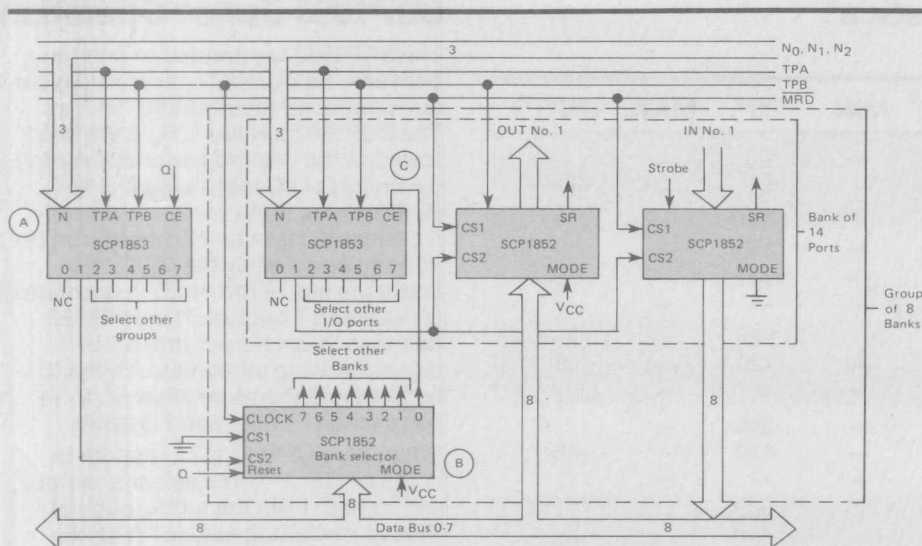

Fig. 4 - Two Level I/O Selection
Two-level I/O allows addressing of hundreds of peripheral devices. Fig. 4 shows a configuration capable of addressing up to 784 peripherals, 392 inputs and 392 outputs. The SCP1853 (A) and SCP1852 (B) together
When the SCP1853 I/O Expander is enabled ($CE = 1$), the selected output will be high from the falling edge of TPA to the falling edge of TPB; the outputs are 0 at all other times. Chip Enable allows for expanded systems, as shown in Figure 4.